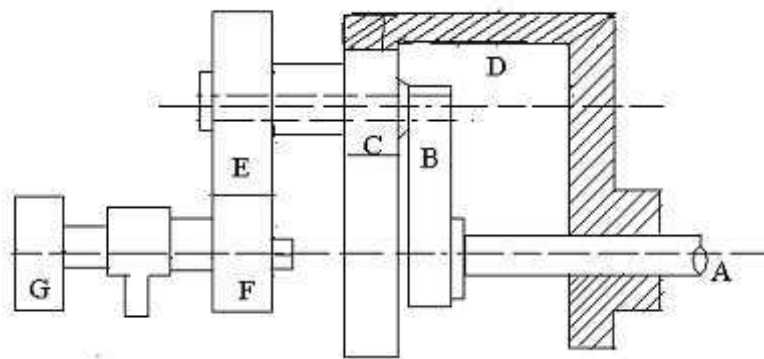

Figure 8
8. In the epicyclic reduction gear shown in Figure 8 a shaft A is driven by an arm B, which is fixed to it. B has a pin fixed to its outer end, and two pinions, C, E which are cast together in one piece, revolve on this pin. C gears with an annular fixed wheel D and E gears with a pinion F which is driven by a belt pulley G. The number of teeth are as follows: